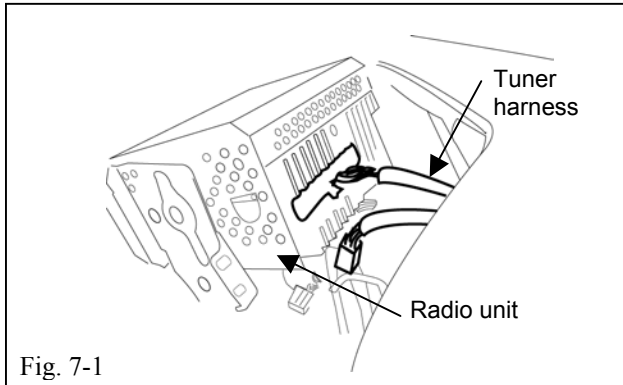

Fig. 7-1
- ⚠ (a) Plug the tuner connector into the radio unit, and then reinstall the radio. (Fig. 7-1)